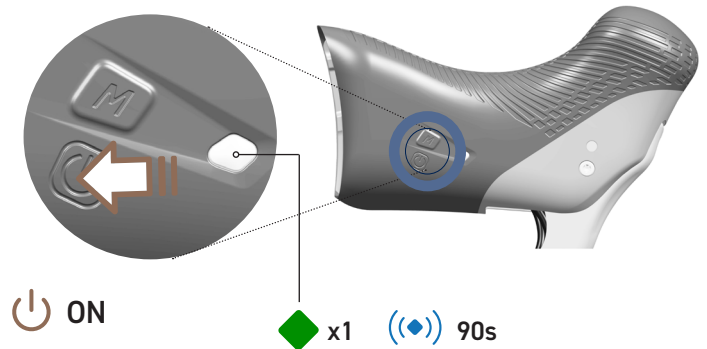

Fig.3
- The Ergopower controls ON button is inside a hole in the control body (protected by the support cover); therefore, an object with flat nose and 3-4 mm diameter is required to access the control (Fig.3).